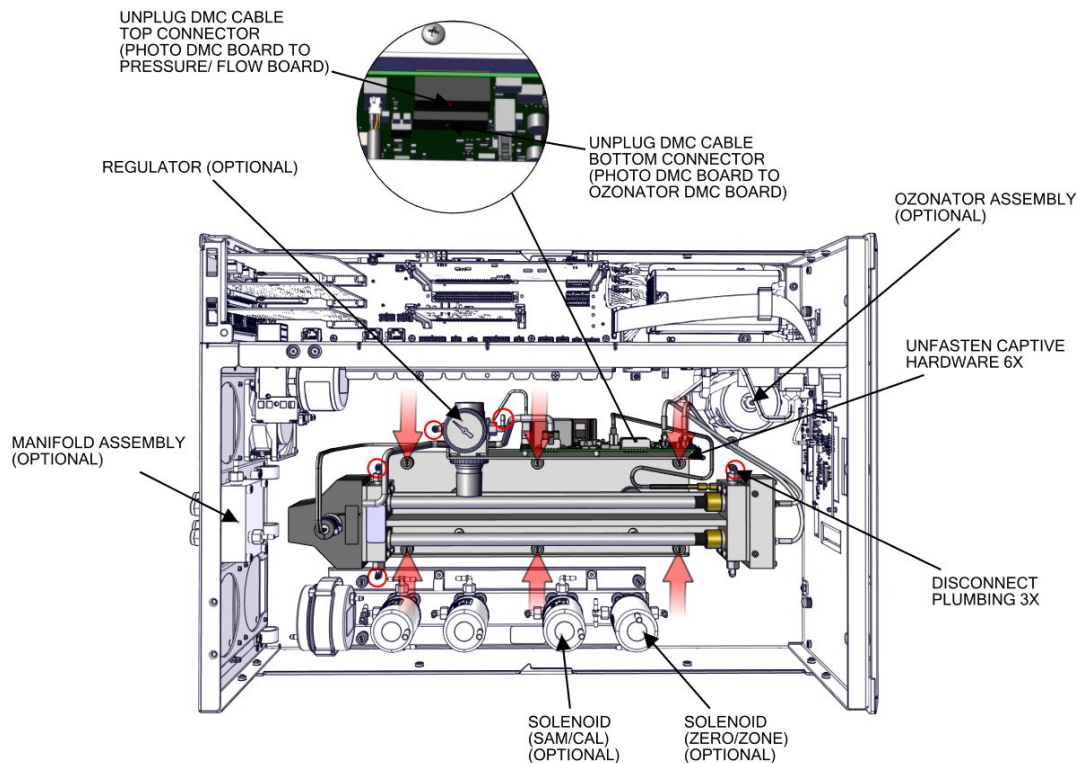

Figure 7-38. Photometer DMC Removal
4. Disconnect 3X plumbing (Figure 7-38).